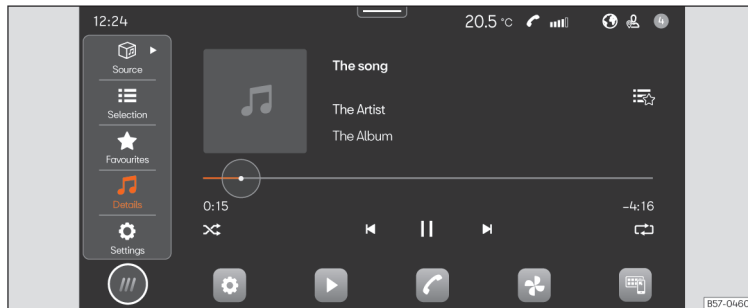

Fig. 163 Schematic representation: Media view
- Press **HOME** > ► >>> **Fig. 163**.